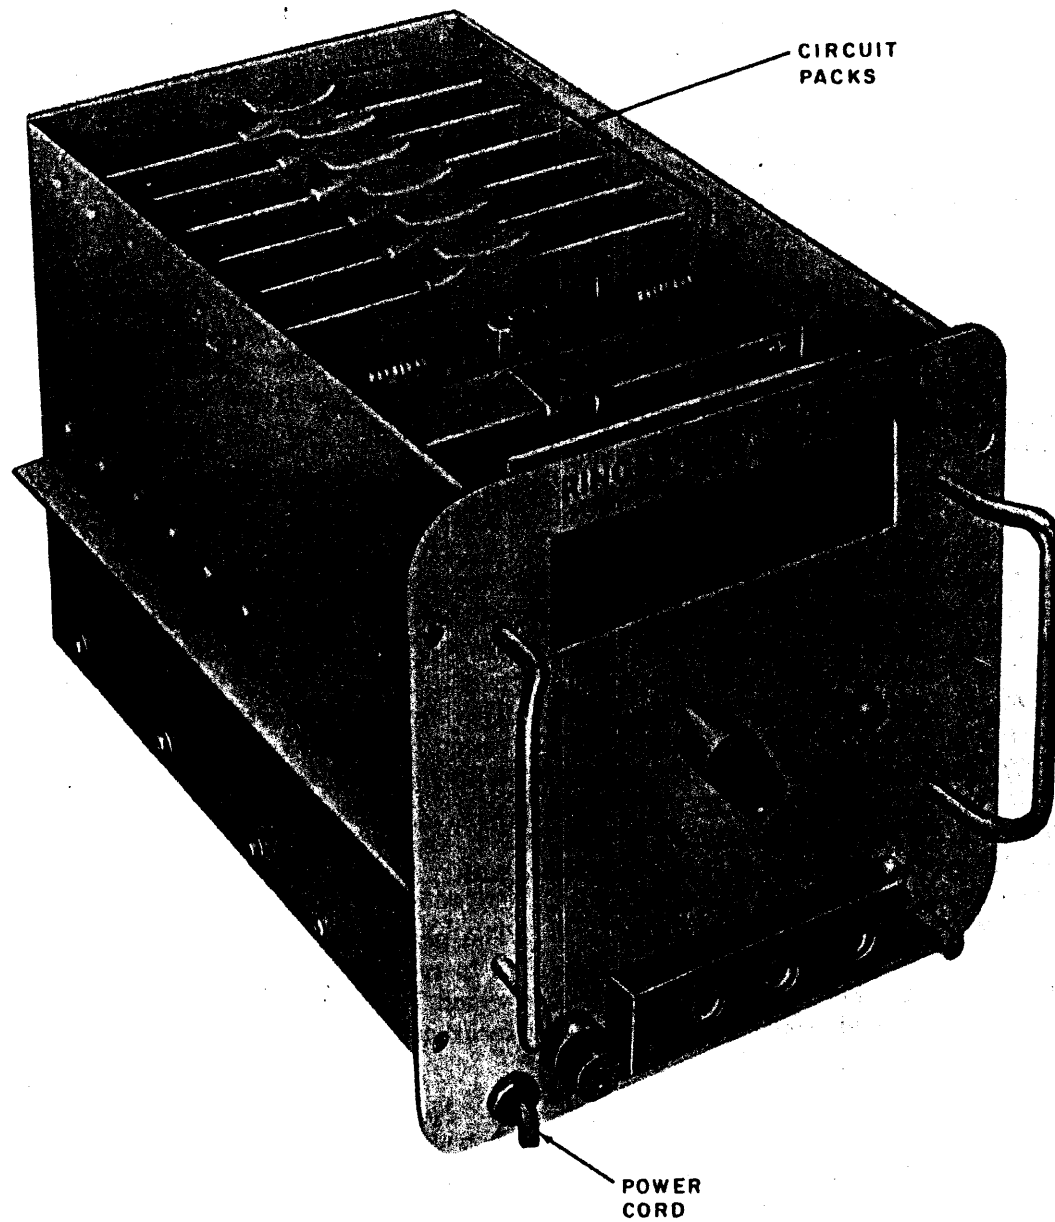

Fig. 11—150A Ringer Counter Test Set Removed From Housing
**5.03** The circuit packs (Fig. 11) in the 150A RCTS may be replaced when defective. It is not recommended that any repairs be attempted on the circuit packs. Circuit packs KR1, KR2, and KR3 are aligned as a matched set of circuit packs. ***SINCE THE KR1, KR2, AND KR3 CIRCUIT PACKS MUST FUNCTION AS A SET, ALL THREE CIRCUIT PACKS MUST BE REPLACED SHOULD ANY ONE BECOME DEFECTIVE. THE SAME PROCEDURES MUST BE FOLLOWED WHEN RETURNING KR1, KR2, AND KR3 CIRCUIT PACKS FOR REPAIRS. ALWAYS RETURN ALL THREE CIRCUIT PACKS.***